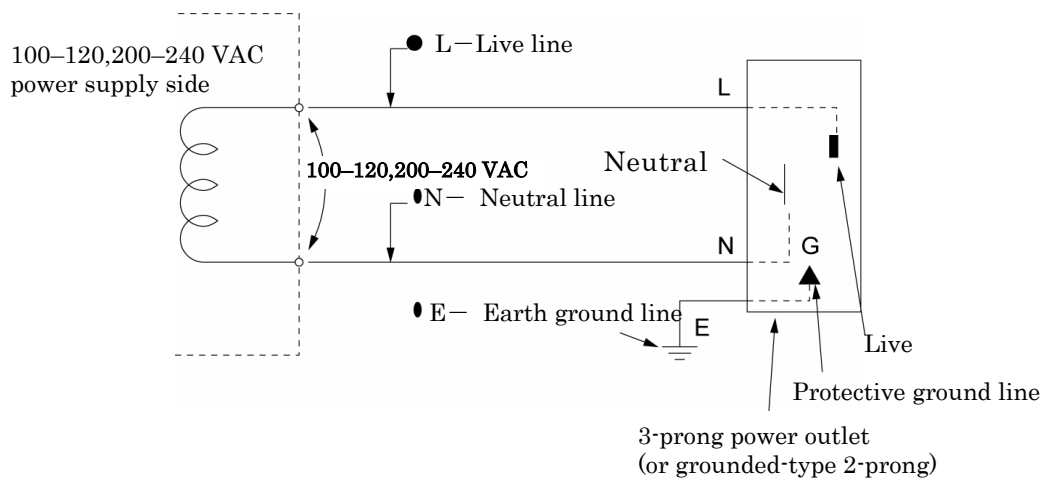
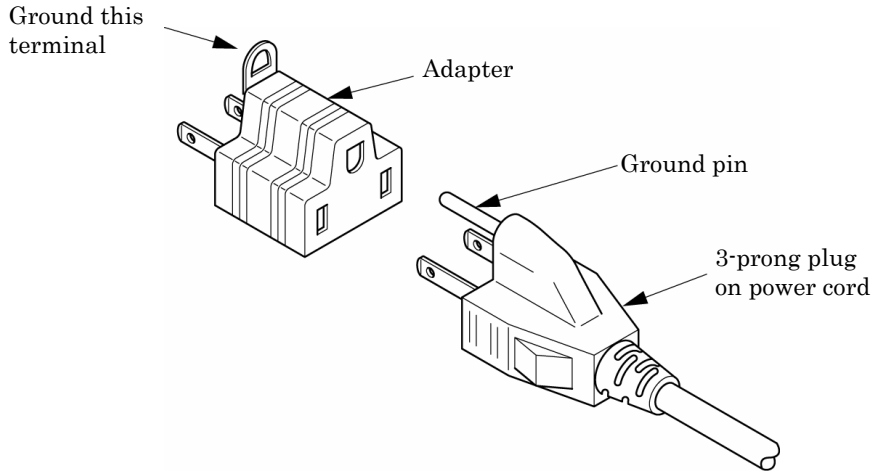

Fig. 1 3-wire power cord plug and power outlet
Fig. 2 Grounding from adapter
(1) Power cord polarities
A 3-prong (or grounded-type 2-prong) power outlet with an earth terminal (E) is connected as shown in Fig. 1 to the live line (L), neutral line (N), and protective earth line (earth ground). Therefore, the included 3-wire power cord is designed so that the power supply polarities will match when the plug on the cord is simply inserted in a 3-prong (or grounded-type 2-prong) outlet.
If a 3-prong power outlet like that shown in Fig. 1 is not provided, ground the terminal coming out of the 3-prong/2-prong adapter shown in Fig. 2.